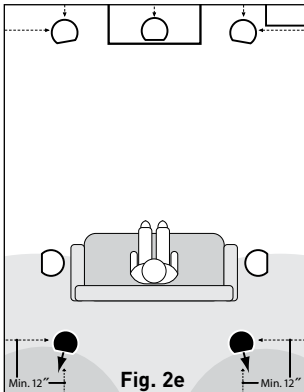

Fig. 2e
7.1 Surround/Rear Placement (Fig. 2e)